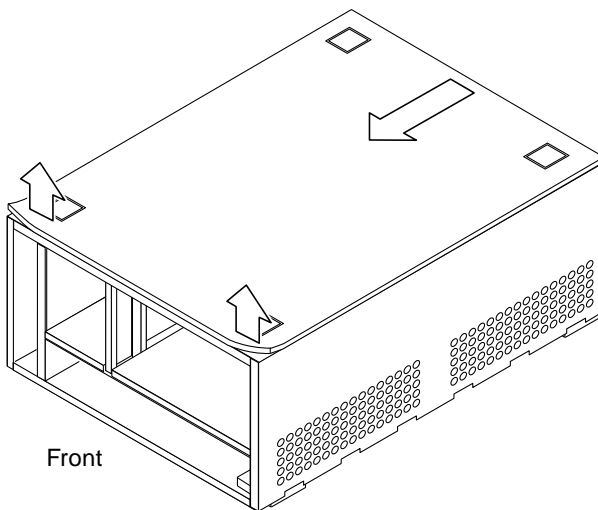

FIGURE 7-19 Removing the Top Panel
7. Remove the top panel (FIGURE 7-19).